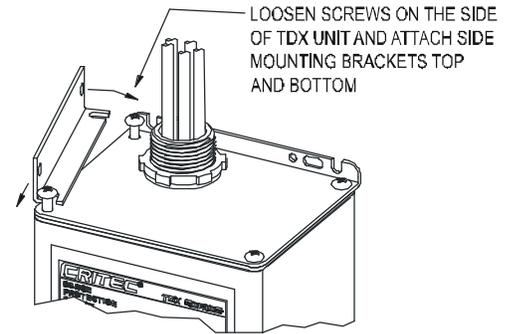

FIGURE 1
2. Loosen side screws in both TDX end plates as shown in Figure 1. Screws should be loosened on the side to be fixed to load center only. Install TDX Side Mounting Brackets and retighten TDX screws. There is no need to remove the screws